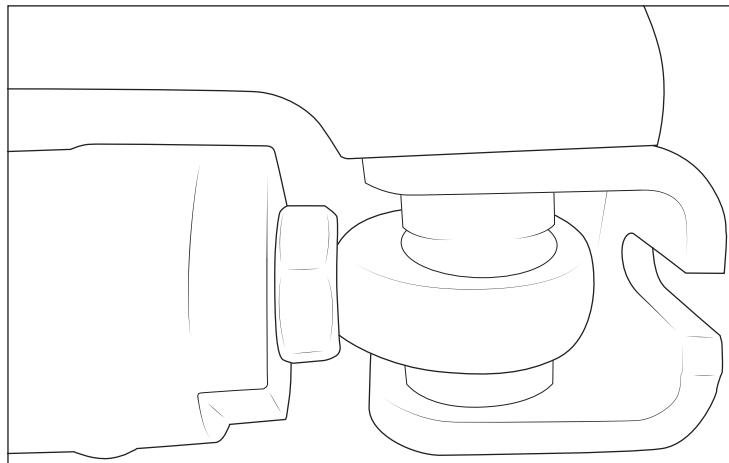

Figure 6
2. The Heim that goes into the threaded fixed end of the ram will need to be shortened. The Heim should be threaded all the way in and bottomed out on jamb nut (fig. 6).